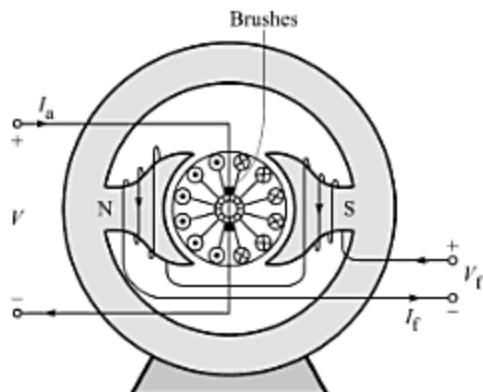

Fig. 16.3 A two-pole dc motor with a brush-commutator system.
**(ii) Commutator** It consists of a large number of wedge-shaped copper segments or bars, assembled side by side to form a ring. The segments are insulated from one another by thin mica sheets. Each segment is connected to a coil-end of the armature winding, as shown schematically in Fig. 16.3. The radial lines represent the active lengths of the rotor conductors. The commutator is a part of the rotor and participates in its rotation.
In the two-pole dc motor shown in Fig. 16.3,  $I_f$  is the *field current* (or *exciting current*) supplied to the field winding from the source  $V_f$ . Current  $I_a$  is the current supplied to the armature from the dc mains of voltage  $V$ . Because of the brush-commutator system, the currents in the conductors on the right side are going into the paper and the currents in the conductors on the left side are coming out of the paper.